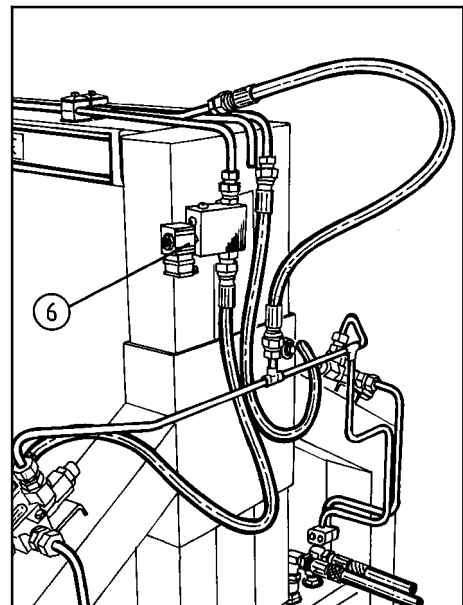

Fig. 14-3
At full speed also the magnet valve on the tower of the machine, (pos. 6, fig. 14-3), is opening, so that the oil goes outside the nozzle.